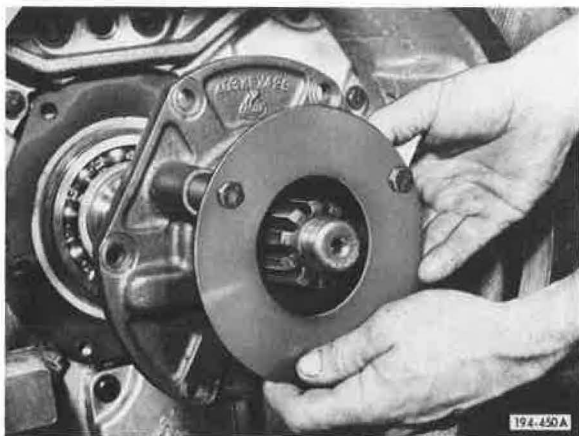

Figure 87. Removing Cover
2. Remove front compound main drive pinion bearing cover. See Figure 87.